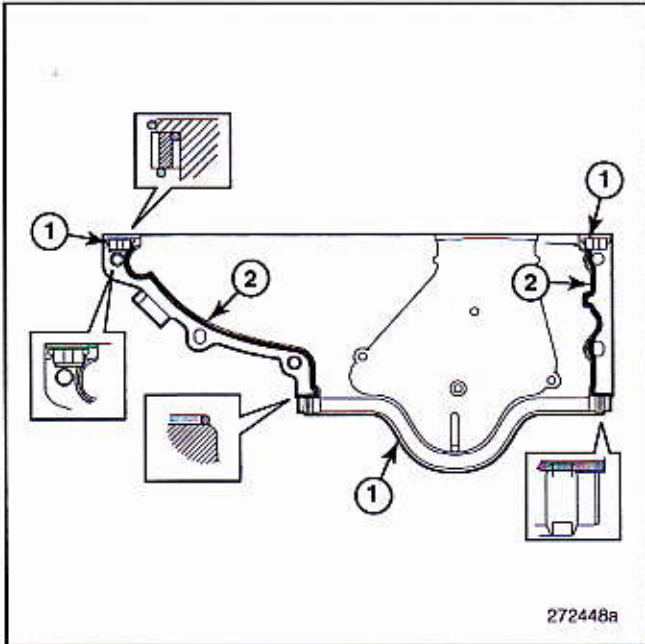

**Figure 454 — Timing Cover Seals and Sealant Application**
16. Apply a 2 mm (5/64 inch) bead of MACK-approved sealant on the timing gear cover mounting surface and install **new** rubber seals (Figure 454).